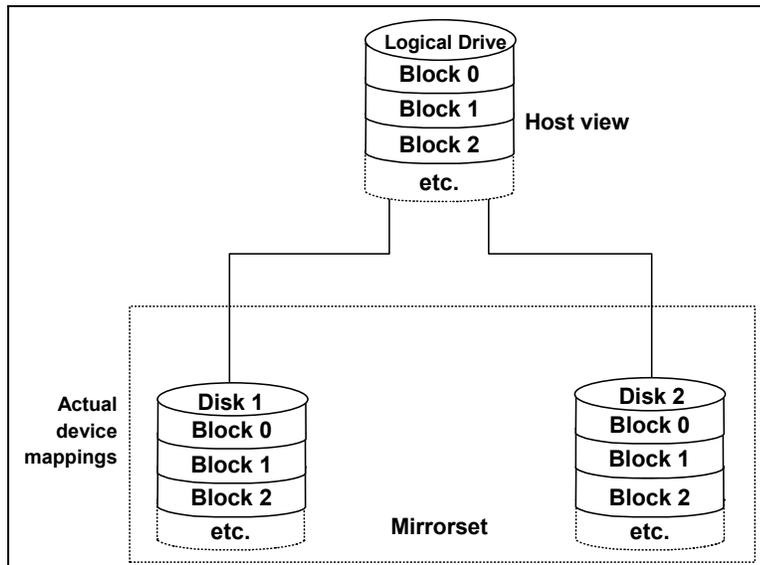

Figure 4-17 RAID-1
- ▶ RAID-1: For availability/good read response time (Figure 4-17)